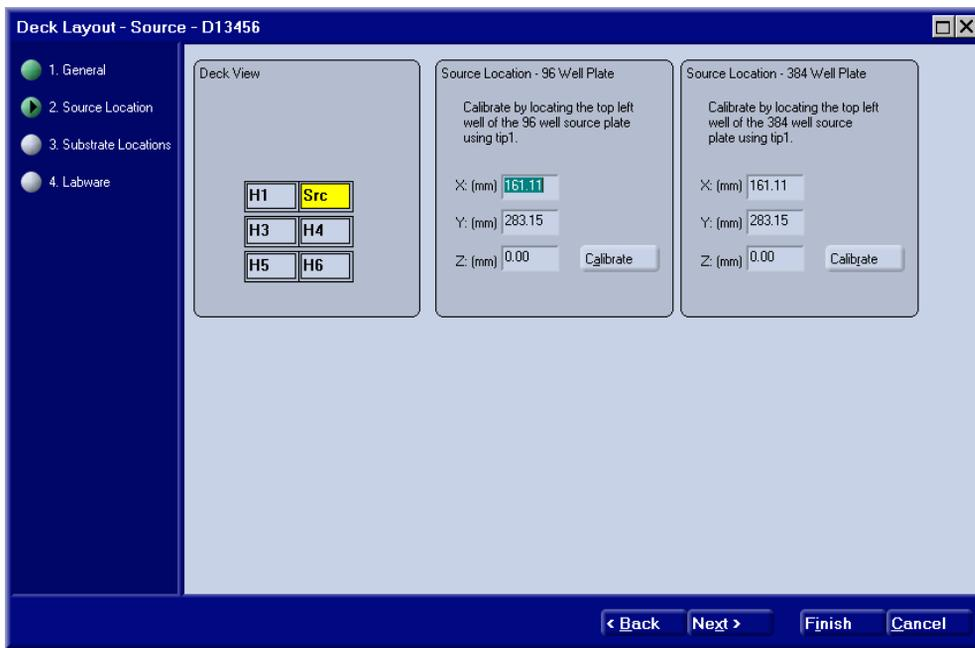

Figure 3-4. Deck Layout Definition - Source Page.
3. Click the  button to advance to the Source page of the Deck Layout definition (Figure 3-4).